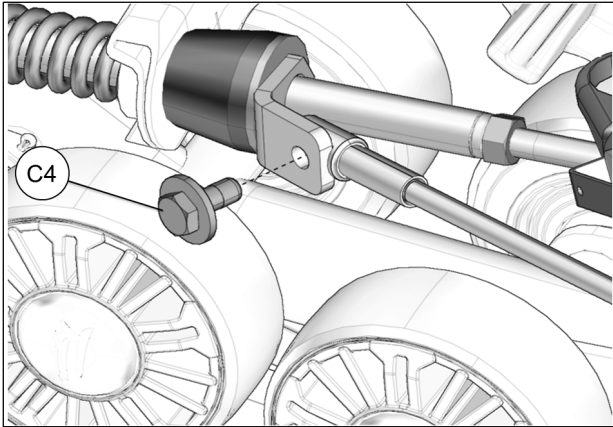

Fig. 26
- Reverse steering wheel a little to be able to bolt support plate and cable together. Tighten provided bolt (C4) to 35 N•m [24 lb•ft]. See Fig. 26. Repeat steps on right side.